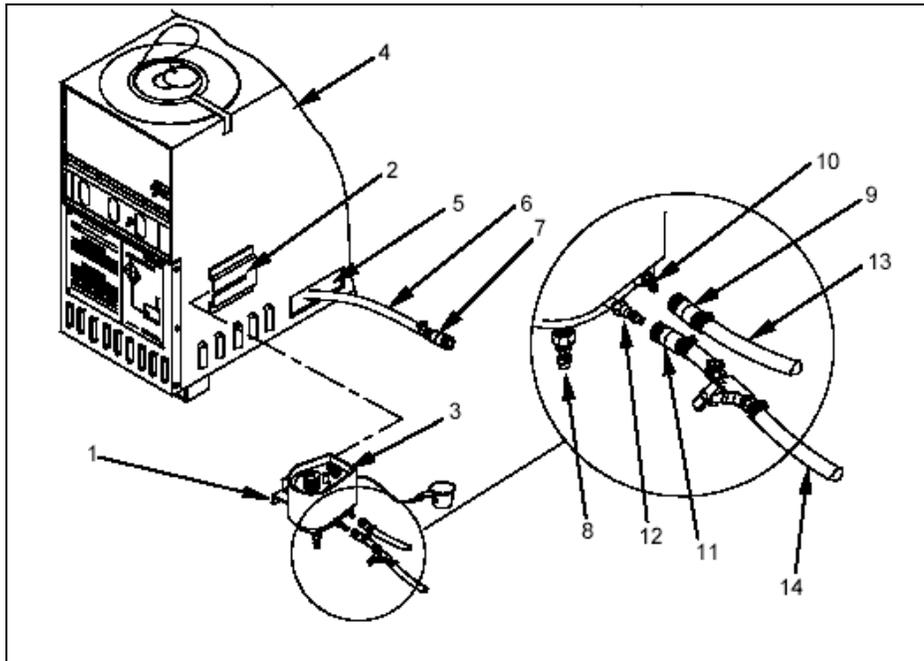

Figure 7
- Install the fuel flow control valve (See Figure 7):
(1) Slide fuel flow control valve from front to back fully into the sleeve on the right side of the heater. Be certain that the control valve is fully seated in the sleeve, does not bind in the sleeve, and is level with heater when installed.
(2) Reach into the cutout area on the right side of the SHA and pull out the fuel control outflow hose.
(3) Connect overflow hose Quick Disconnect (QD) to fuel discharge fitting on base of control valve.
(4) Connect fuel supply hose to fuel inlet fitting.